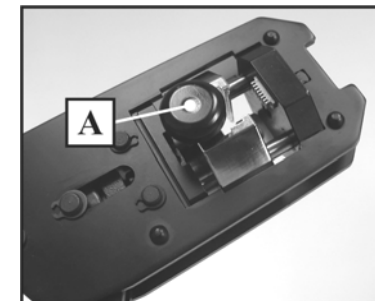

Fig.6.
- ❑ After the full crimping cycle is done, open the tool fully in order to remove crimped plug. Press the release button (A) (Fig.6.) at the back side of the tool and pull out the plug assembly. The tool is ready for next crimping cycle.